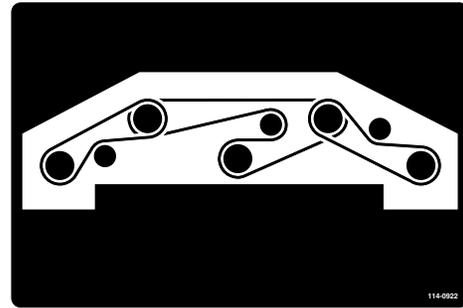

**Figure 127**
5. Remove the bolts securing the hydraulic motor to the cutting unit (Figure 127).
3. Remove the bolts securing the hydraulic motor to the cutting unit (Figure 127).